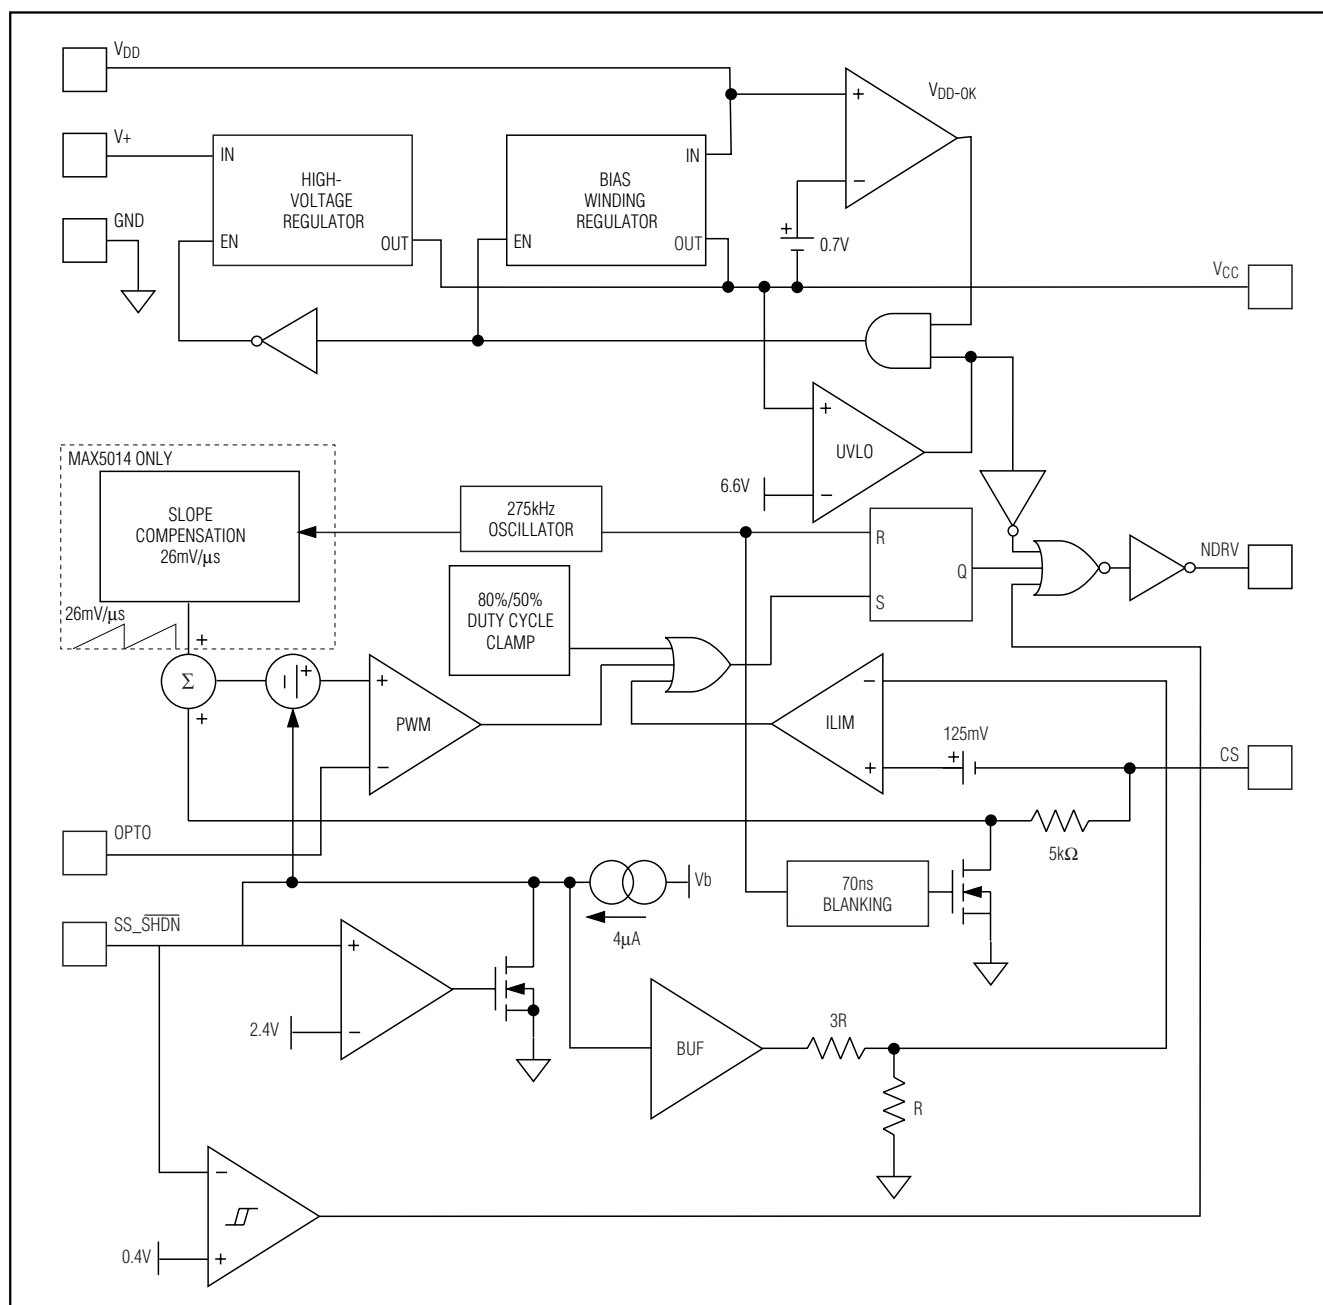
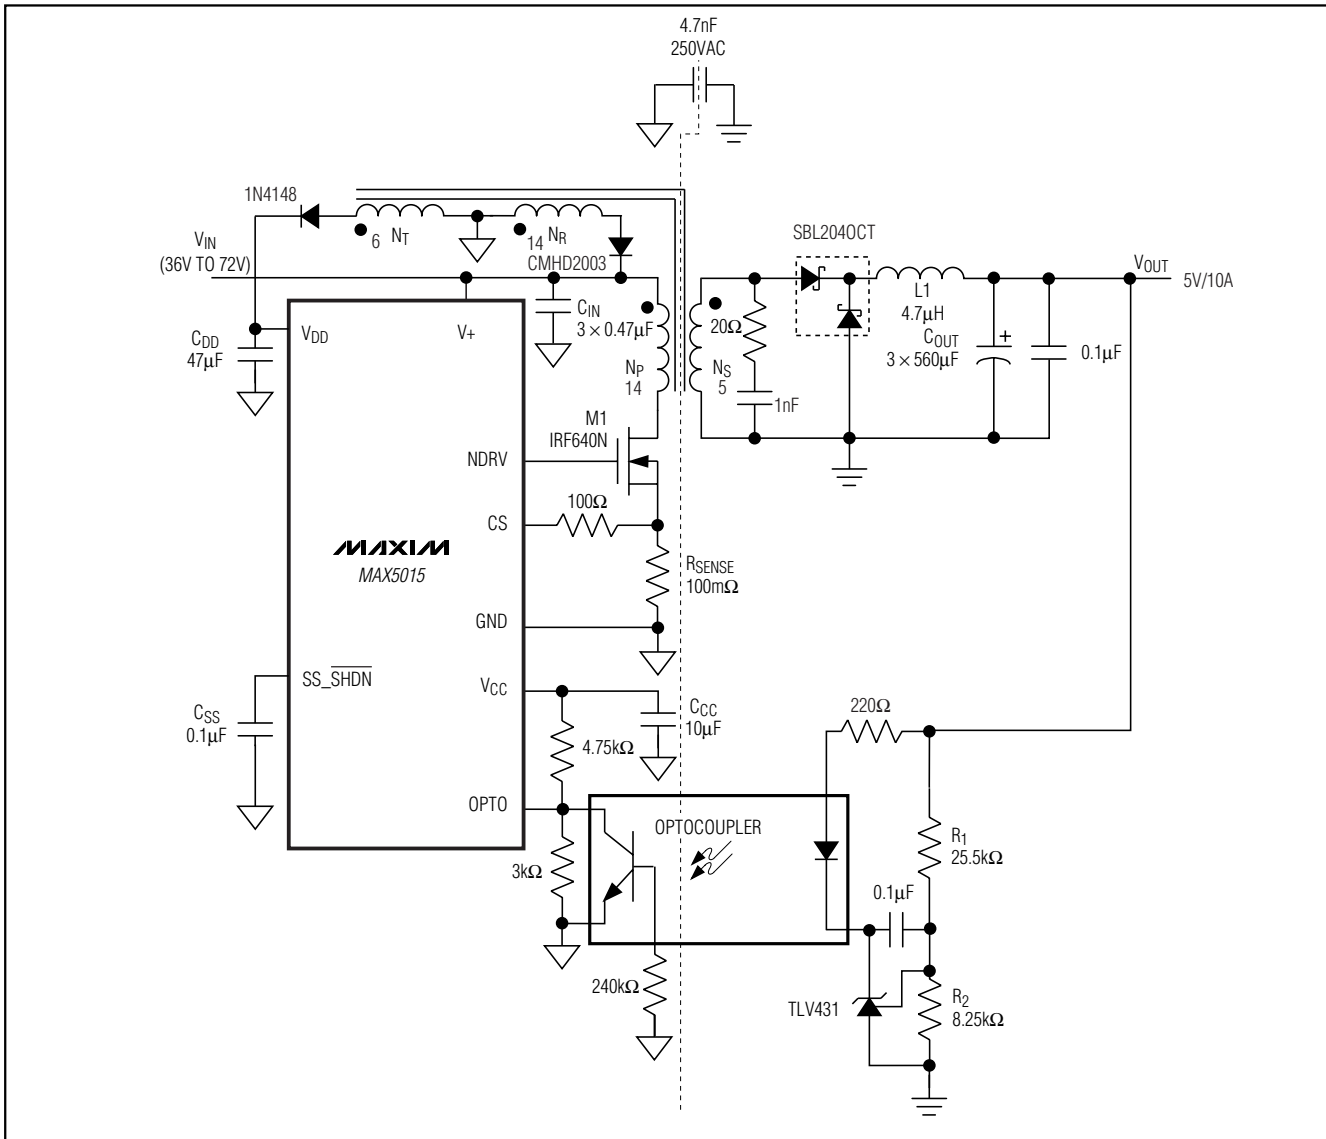
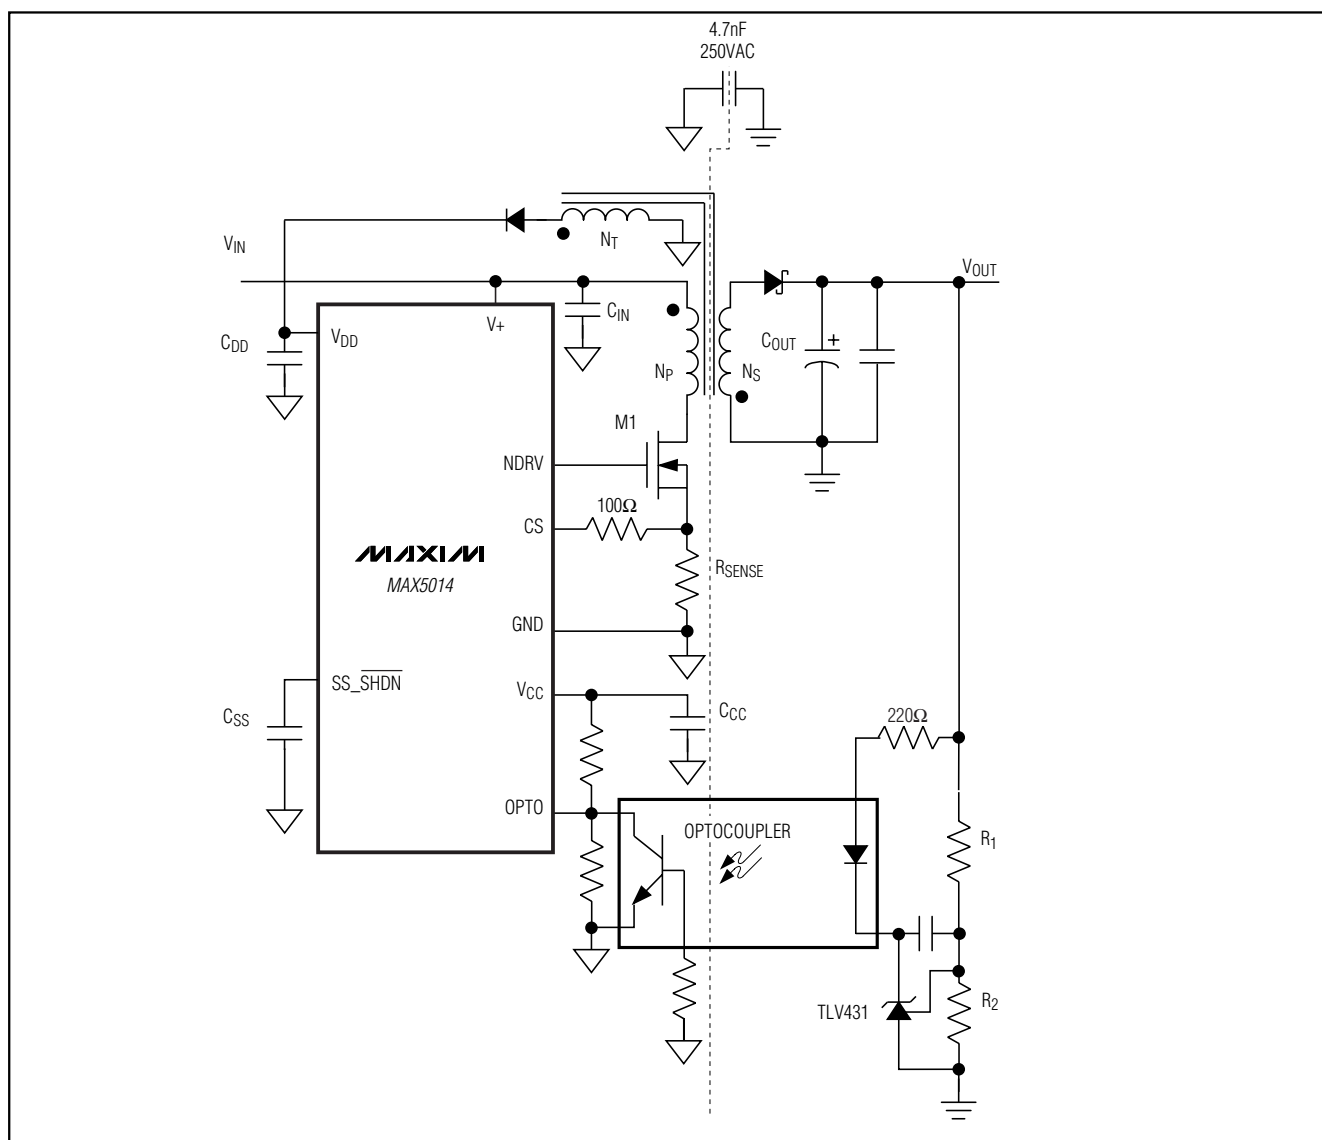

Figure 1. Functional Diagram
Figure 2. Forward Converter
Figure 3. Flyback Converter
Use the MAX5014/MAX5015 PWM current-mode controllers to design flyback- or forward-mode power supplies. Current-mode operation simplifies control-loop design while enhancing loop stability. An internal high-voltage startup regulator allows the device to connect directly to the input supply without an external startup resistor. Current from the internal regulator starts the controller. Once the tertiary winding voltage is established the internal regulator is switched off and bias current for running the IC is derived from the tertiary winding. The internal oscillator is set to 275kHz and trimmed to  $\pm 10\%$ . This permits the use of small magnetic components to minimize board space. Both the MAX5014 and MAX5015 can be used in power supplies providing multiple output voltages. A functional diagram of the IC is shown in Figure 1. Typical applications circuits for forward and flyback topologies are shown in Figure 2 and Figure 3, respectively.
Isolated voltage feedback is achieved by using an optocoupler and a shunt regulator as shown in Figure 2. The output voltage set point accuracy is a function of the accuracy of the shunt regulator and feedback resistor-divider tolerance.
where  $C_{\text{SS}}$  is the soft-start capacitor as shown in Figure 2.
The current-sense (CS) comparator and its associated logic limit the peak current through the MOSFET. Current is sensed at CS as a voltage across a sense resistor between the source of the MOSFET and GND. To reduce switching noise, connect CS to the external MOSFET source through a 100Ω resistor or an RC low-pass filter (Figures 2, 3). Select the current-sense resistor,  $R_{\text{SENSE}}$  according to the following equation:
The following is a general procedure for designing a forward converter (Figure 2) using the MAX5015.
The circuit in Figure 2 was designed as follows:
where  $V_{REF}$  is the reference voltage of the shunt regulator, and  $R_1$  and  $R_2$  are the resistors shown in Figures 2 and 3.